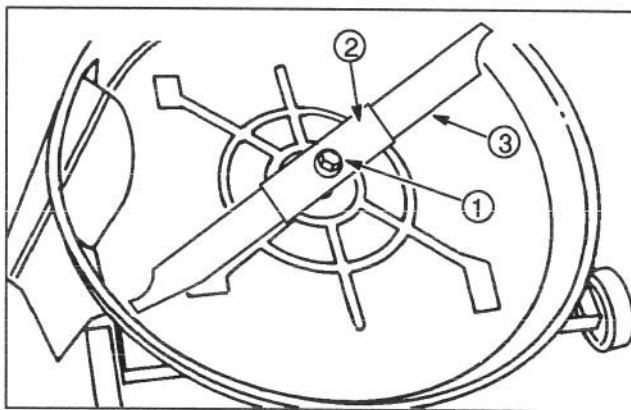

Figure 21
6. Grasp the end of the blade using a rag or thickly padded glove; then remove the blade bolt, washer, blade stiffener and blade (Fig. 21).
9. In sequence, install the blade, the blade stiffener, washer and blade bolt (Fig. 21). Tighten the blade bolt to 45-60 ft-lb (61-81 Nm).
7. While the rider is tipped on end, check condition of blade (Fig. 21).